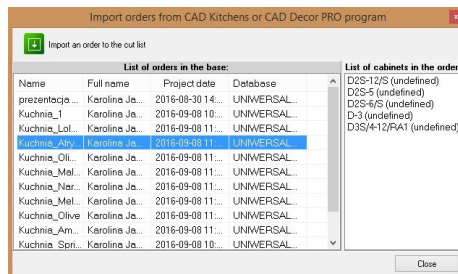

Fig. 108 – the window of importing orders from CAD Kitchens and CAD Decor PRO
- the **'Import orders...'** window will open (Fig. 108), in which you can see a list of designs created in CAD Kitchens and CAD Decor PRO programs;